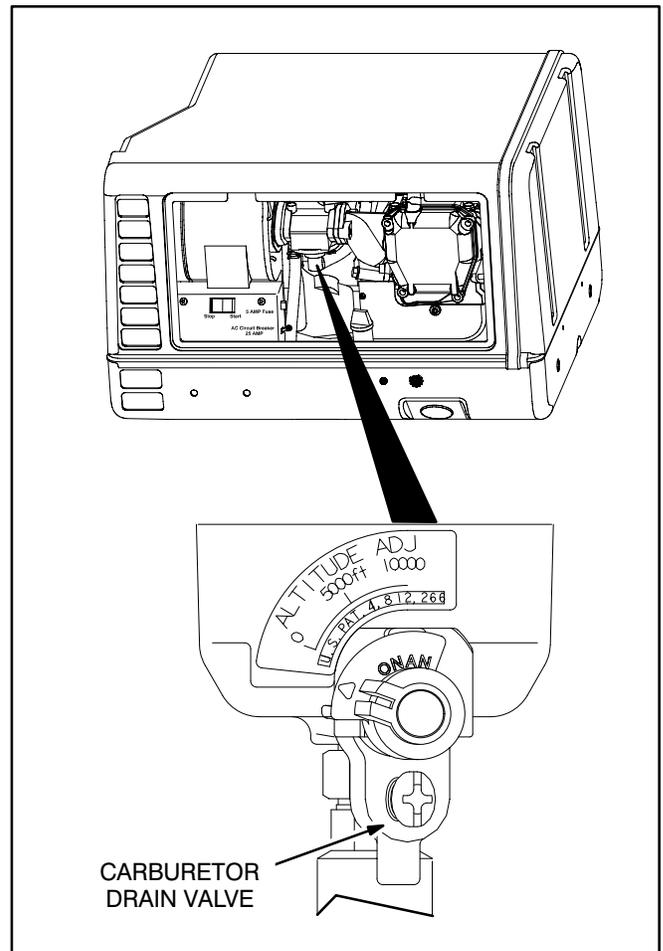

FIGURE 9. CARBURETOR DRAIN VALVE
10. **Gasoline Models** – Draining the carburetor float bowl prevents deposits of gum from clogging the tiny passages in the carburetor as the gasoline in the bowl evaporates during storage. If the carburetor has a drain (Figure 9), drain it as follows: